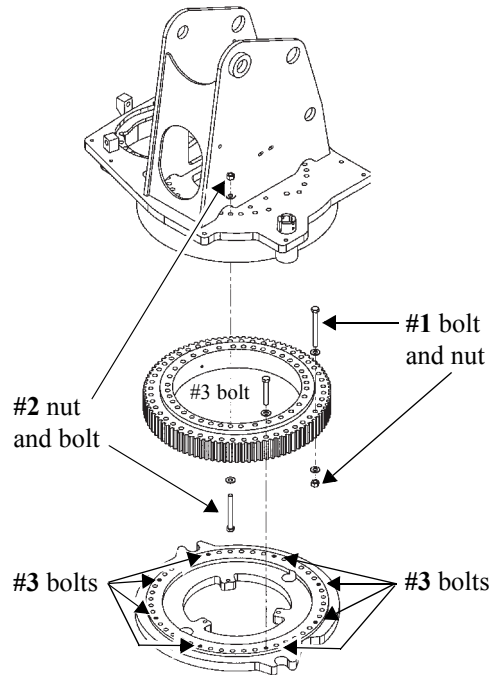

Figure 30 - Location of nuts and bolts
6. Check all other bolts on the loader visually (except for the slewing ring bolts shown in *Figure 30*) and tighten loose bolts, according to the values given in the *Parts Manual*.
You must check the three sets of slewing ring nuts and bolts shown in *Figure 30*, below, at the end of the inspection because you must turn the booms to access the #3 bolts.